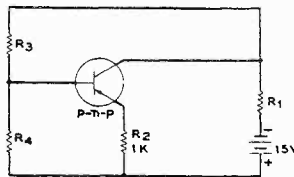
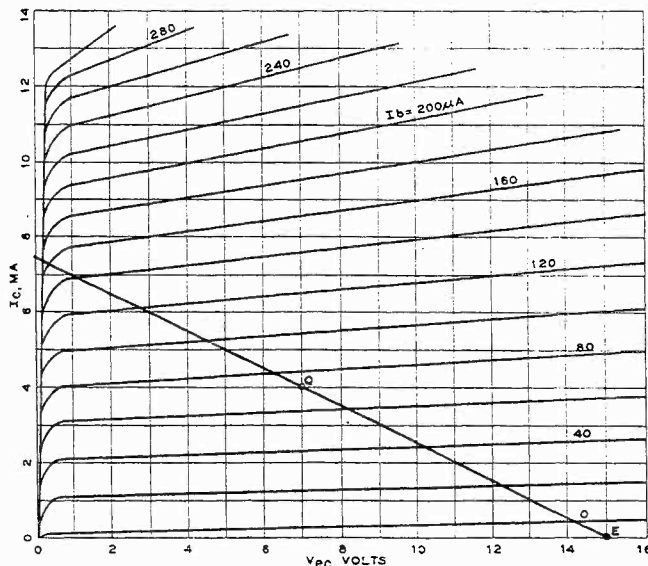

Fig. 9. Widely used practical circuit.
Fig. 10. Chart that shows operating conditions for which resistance values in Fig. 9 are calculated.
The solid load line in Fig. 9 represents a plate-to-plate resistance of 6.5 K (or a resistance for the single plate of 1.625 K). The peak plate voltage swing, 300 volts, produces an output power of 28 watts, which is higher than either the pentode or triode method of operation.
Fig. 10. Schematic of circuit for operating tubes as ultra-linear cathode followers. For 43% equivalent tapping, the screen winding must have 57% of the turns in the cathode winding. Extremely good coupling between the cathode and screen windings is essential.
*Example 4.* Now we're ready for the last problem—one of considerable complexity. Fig. 9 is a bias network that is quite common, because of its good stability. Assume that the desired quiescent point is as shown in Fig. 10, and that the current through  $R_1$  must be
We have solved Fig. 9 completely now—and have designed, on paper, a bias network that will produce the desired quiescent point.